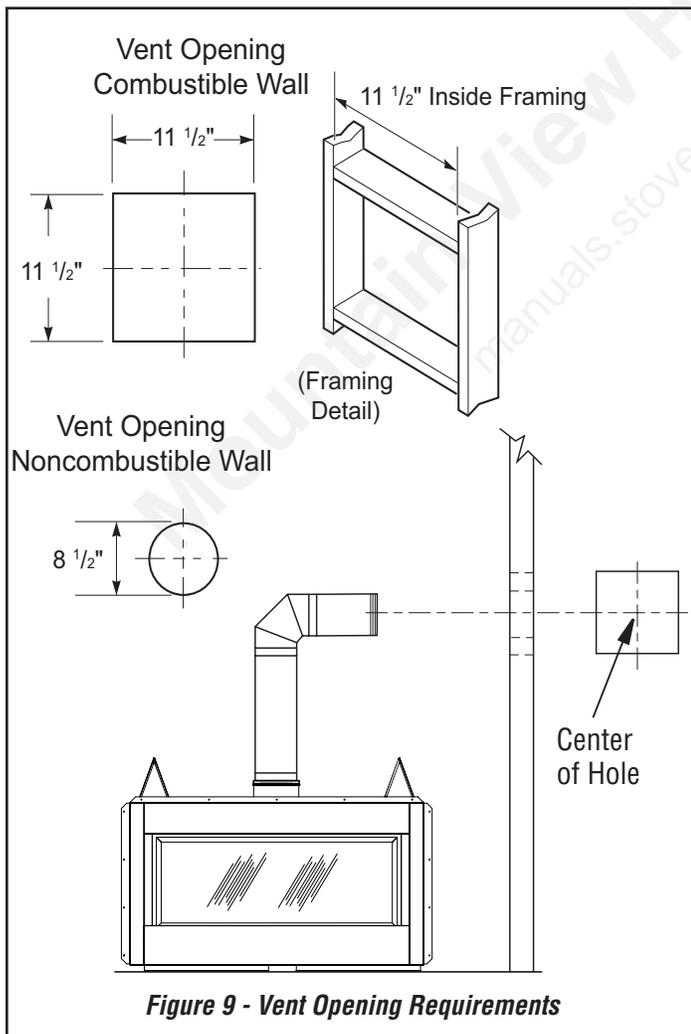

Figure 9 - Vent Opening Requirements
4. Carefully determine location where vent pipe assembly will penetrate outside wall. Center of hole should line up with center line of horizontal vent pipe. Mark wall for an 11 1/2" x 11 1/2" square hole. Cut and frame square hole in exterior wall where vent will be terminated. If wall being penetrated is constructed of noncombustible material, such as masonry block or concrete, a 8 1/2" hole with zero clearance is acceptable (see **Figure 9**).
1. Cut a 11 1/2" square hole in ceiling using locating hole as a center point. Opening should be framed to 11 1/2" x 11 1/2" inside dimensions, as shown in **Figure 9** on page 20 using framing lumber the same size as ceiling joists. If area above ceiling is an insulated ceiling or an attic, nail firestop from top side. This prevents loose insulation from falling into required clearance space. If area above ceiling is a living space, install firestop below framed hole. Firestop should be installed with no less than three nails per side (**see Figure 18**).
3. Cut a hole in the roof using locating hole as a center point. (Cover any exposed open vent pipes before cutting hole in roof.) The 11 1/2" x 11 1/2" hole must be measured on the horizontal; actual length may be larger depending on pitch of roof. There must be a 1" clearance from vent pipe to combustible materials. Frame opening as shown in **Figure 9** page 20.